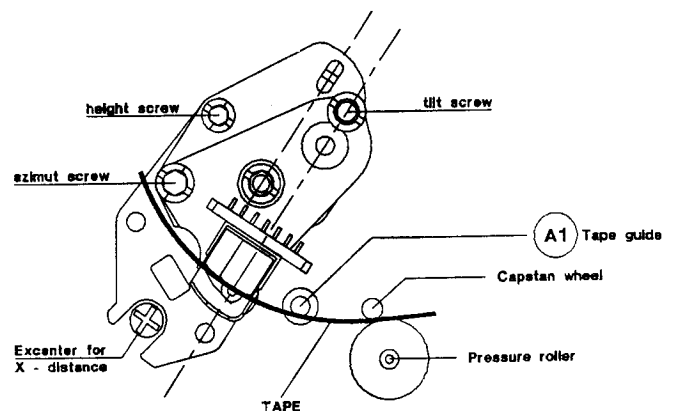

Fig. 14
- By means of the tilt angle adjusting screw move the tape until the lower edge just touches the tape guide A1 (see Fig. 14) the tape must not be distorted at the lower edge (by pressing onto guide).
- Adjust to maximum output voltage by means of the azimuth adjustment screw (Fig. 14).
- Display the TRIV signal on an oscilloscope (DC-coupled) and adjust for maximum voltage by means of the eccentric screw (Fig. 14)